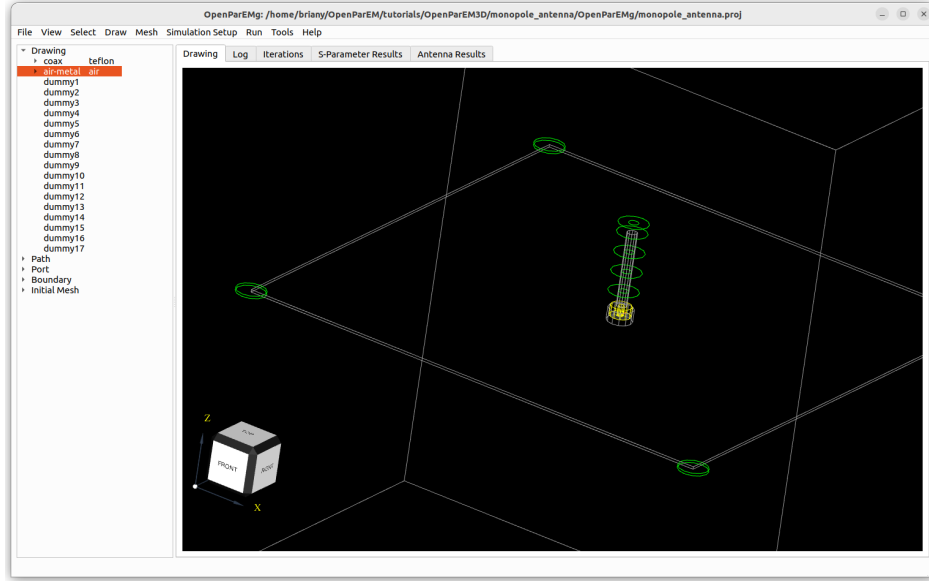

Figure 17: Final structure with dummy polylines added for mesh seeding.
- The final drawing with dummy objects added is shown in Fig. 17